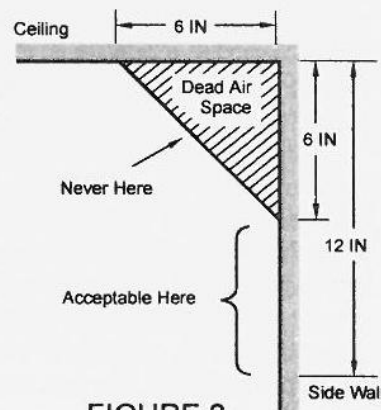

FIGURE 2
- Since natural (methane) gas is lighter than air (1:0.56), the greatest concentration of gas will be immediately under the ceiling. Mount detectors on the wall with the top edge of the detector at a minimum of 6" (15cm) and a maximum of 12" (30.5 cm) below the ceiling, and at least 2 feet (60.1 cm) from any corner (see figure 2).